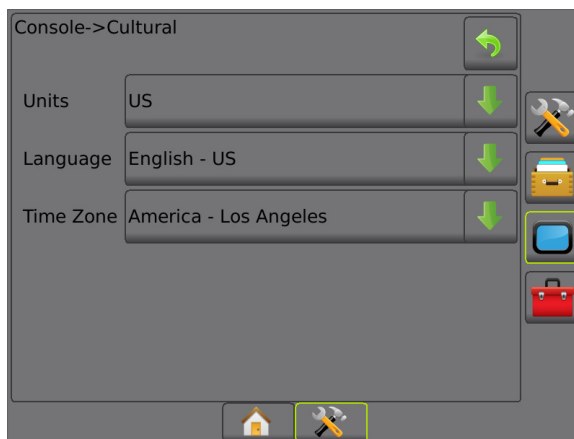

Figure 6 - Cultural screen
- Press the Cultural button to access the cultural settings screen, Figure 6.